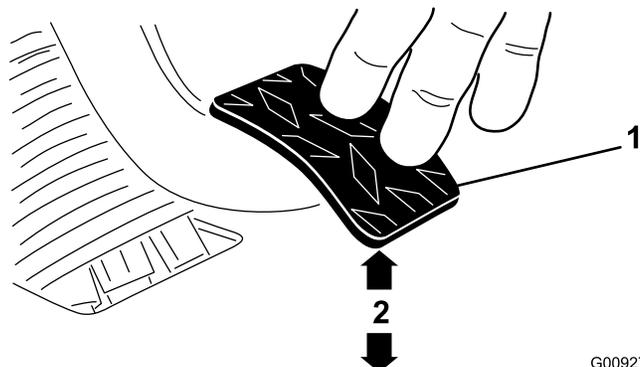

Figure 57
3. Adjust the jam nuts or ball joint until the back, rear edge of the clutch pedal is 3.75 ± 0.12 inch (9.5 ± 0.3 cm) from the top of the floor plate diamond pattern, when an 4 lb (1.8 kg) force is applied to the pedal (Figure 57).